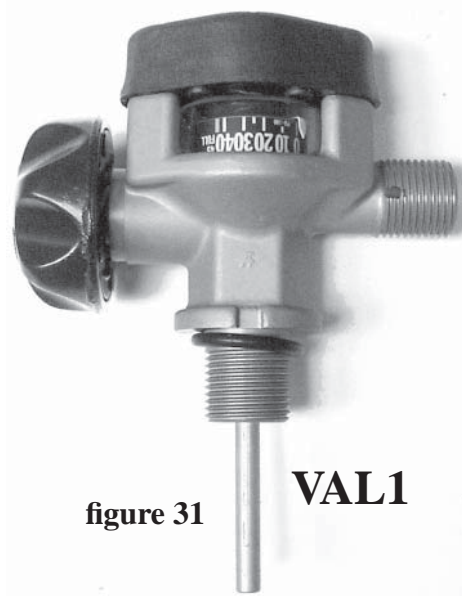

figure 31 VAL1
15.6.1. The supply cylinder valves (figure 31) are very similar to the fill valves, along with some additional parts.